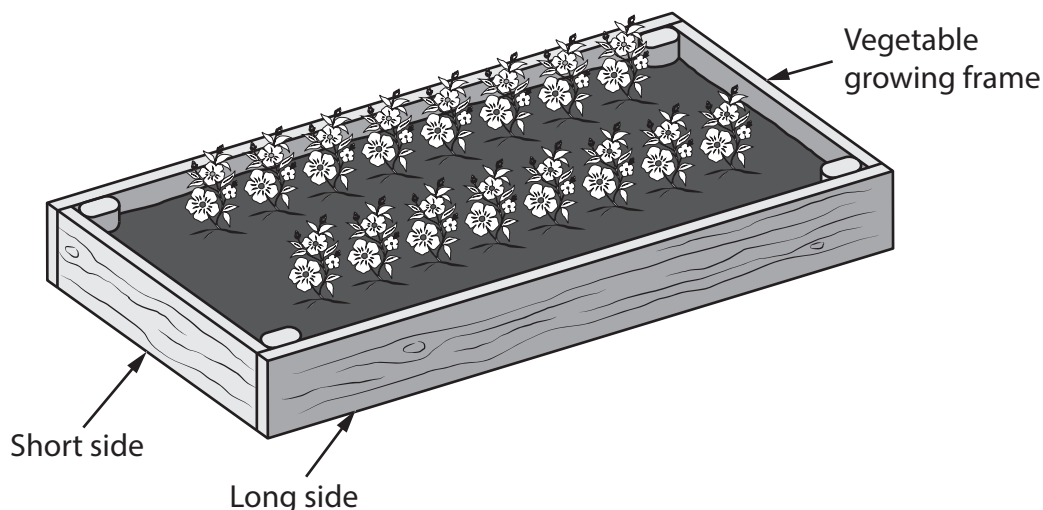

Figure 5
- 3 Figure 5 shows a vegetable growing frame that is manufactured from a softwood.